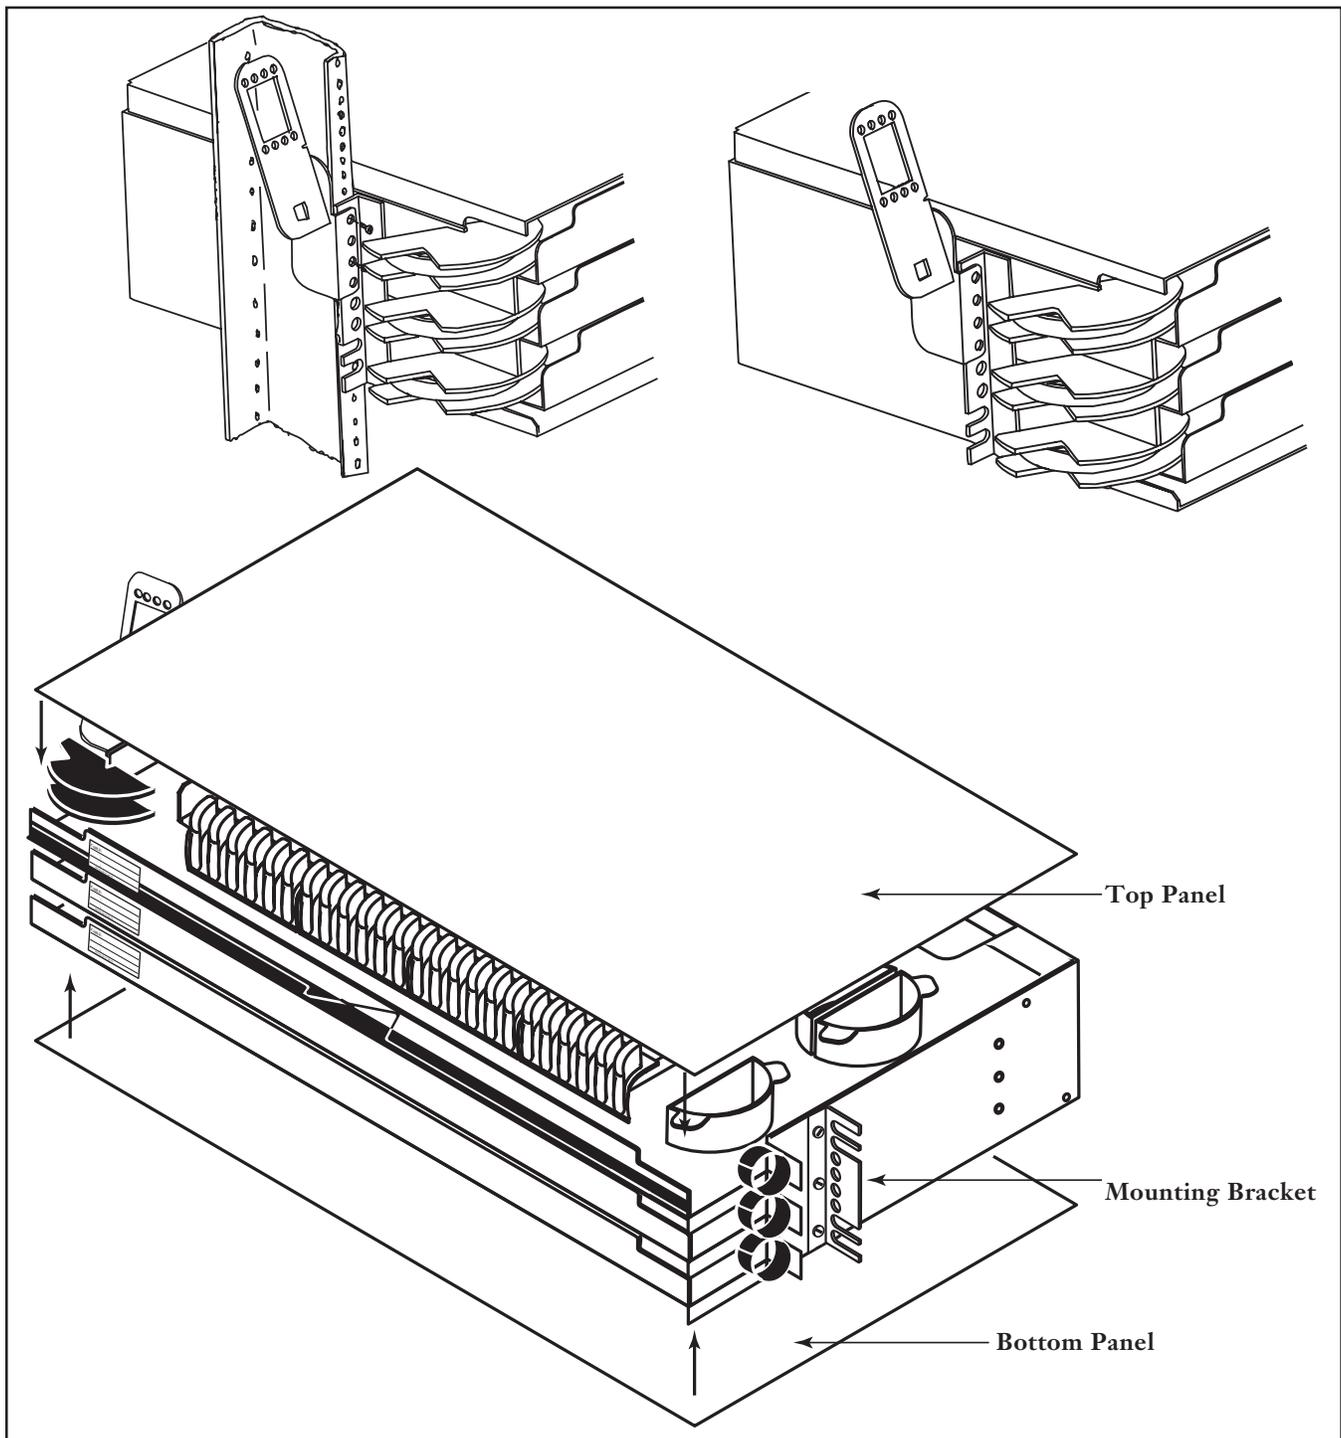

Figure 10
the utility rack on mounting brackets using the 12-24 x 3/8-inch screws provided (Figure 10). Slide housing into position and secure with two (2) screws on the right and one (1) screw in a lower mounting slot on the left. Position the strain relief bracket on the left side so the top of the mounting bracket is flush with the top of the housing mounting bracket and secure with two (2) more screws. See detail in Figure 10.